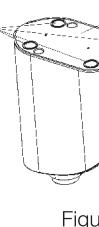

Figure 3
1. Before using the Virtual Wall, install the batteries as shown in Figure 3. Open the bottom cover of the Virtual Wall, install 2 pieces of A batteries (pay attention to the correct polarity). After the installation, close the bottom cover and tighten the screws.
1. You need to use a screwdriver to open the bottom cover of the Virtual Wall (see Figure 3)